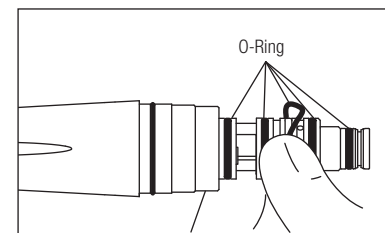

Fig. 10
- Gently remove each O-Rings with your thumb. (Fig. 10)